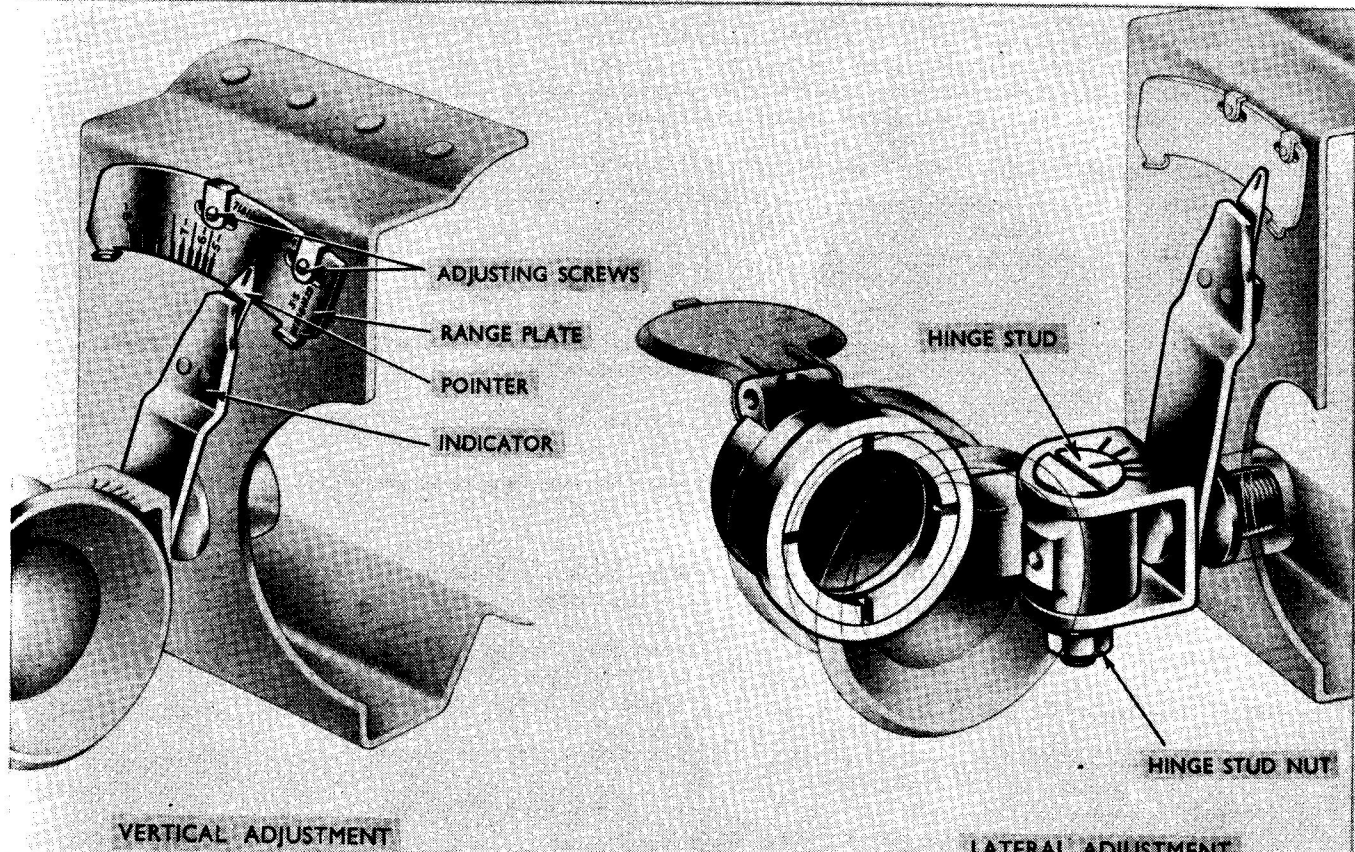

Fig. 30 Sight Adjustments
46.2. Lateral adjustment of the sight is made by loosening the hinge stud nut and then turning the stud with a screwdriver. The movement of the hinge stud and its detent which is fitting into a seating of the sight frame will bring the line of sight parallel to the vertical axis of the bore (Fig.5). The graduated markings on the yoke (Fig.30) are for reference only. The hinge stud nut is tightened after the adjustment has been made.